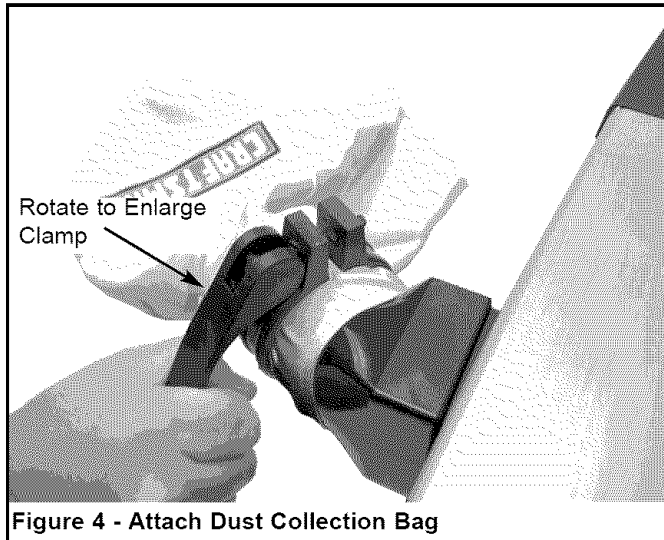

Figure 4 - Attach Dust Collection Bag
- Place clamp over bag sleeve (see Figure 4).